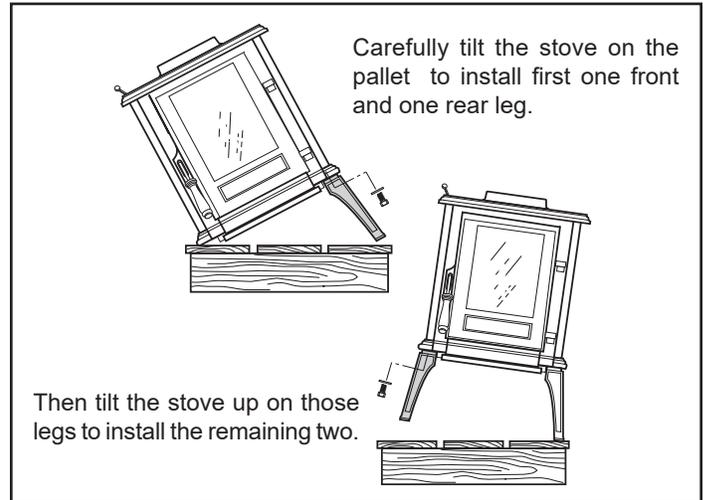

Figure 7.1 - Install legs on one side of stove then the other.
2. Install two legs, using the hex head bolts and 3/8" washers in the hardware bag. The shoulder of the legs should seat within the locator bosses cast into the stove bottom at each corner. (Figure 7.1) Tighten the bolts with the wrench.